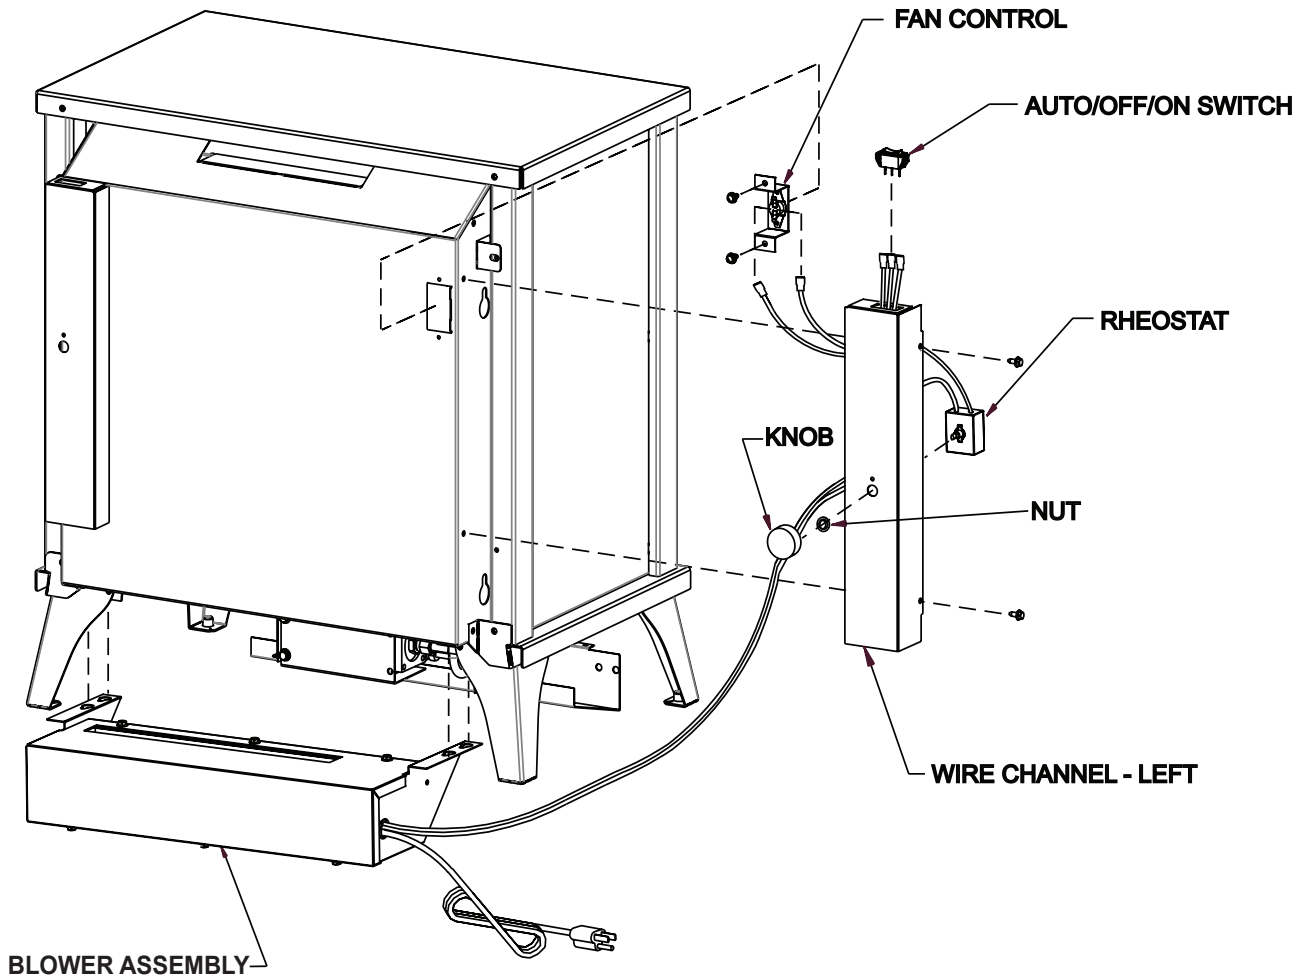

Figure 28 - VFD30MS Shown
4. Remove wire channel-left from appliance by removing 10 x 1/2" screws on left side of the appliance. **Note:** Some units require a new wire channel. If Rheostat mounting holes are missing from part removed from unit, discard wire channel removed from unit and continue installation with appropriate wire channel shipped with blower. **See Figure 28.**
13. Bend the fan control tab, located on the left side of the back of the unit, inward toward the unit. See Figure 28. Be sure tab is bent at least 90 degrees to allow fan control bracket to slide into slot.